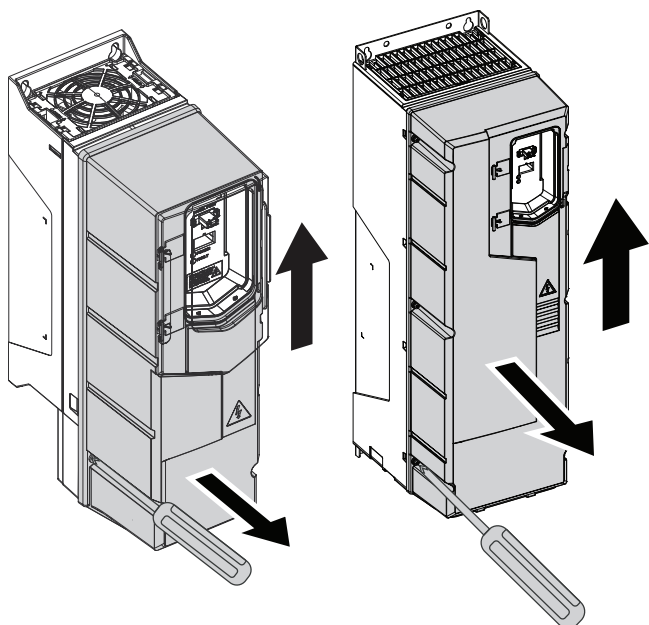

Fig. 49 — Remove Drive Cover (R1 and R2 Frame Sizes)
2. Remove the drive cover (see Fig. 49).
3. Remove the front cover by loosening the retaining screw (see Fig. 49).